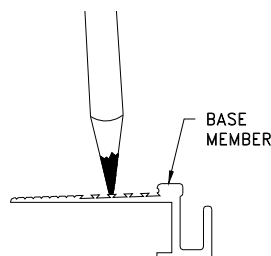
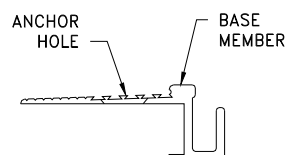

Figure 2
Figure 3
**STEP 2.** Select a section of the base member. If the anchor holes have not been predrilled in the base members at the factory, mark the locations for the anchor holes on the selected base member (see Figure 2). Standard anchor spacing is 20" O.C. with an anchor at a nominal 3" from each end of the base member. Drill the holes into the base member at the marked locations (see Figure 3). Repeat this procedure for each section of the base member.